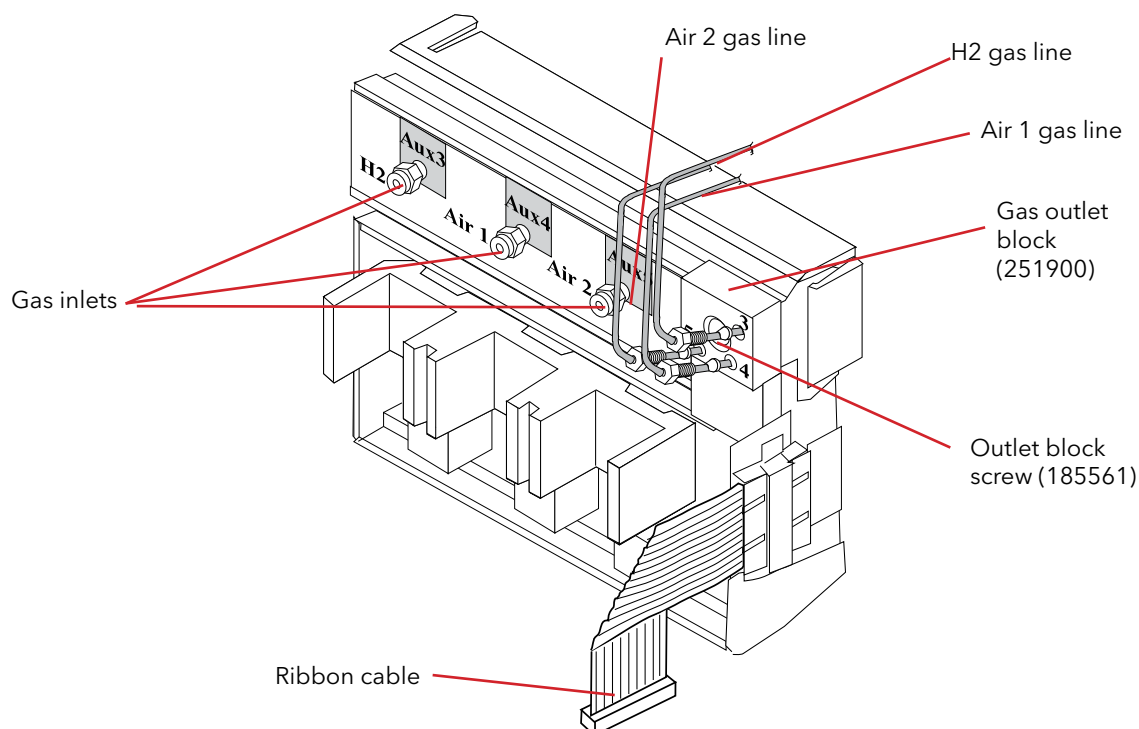

Figure 3.33. Auxiliary EPC Manifold and Aux EPC Mixing Assembly
2. Remove the Agilent gas outlet block attached to the front upper right corner of the auxiliary EPC manifold (Figure 3.33) by unscrewing the Torx T-20 screw (PN 185561). Carefully remove the three 30-mL/min cylindrical restrictors (marked with a red dot) and O-rings from the back of the Agilent gas outlet block.
3. Place two of the Agilent 30-mL/min restrictors and O-rings in the number 4 and 5 gas outlets on the OI gas outlet block (PN 251900). The gas outlet numbers are inscribed on the front of the gas outlet block (Figure 3.33). Place the third O-ring over the supplied 10-mL/min restrictor (PN 290601) and insert the restrictor into the number 3 gas outlet of the OI gas outlet block. With all three restrictors and O-rings in place, reattach the Agilent gas outlet to the OI gas outlet block with the previously removed T-20 Torx screw.
4. Attach the H2 label immediately to the left of the Aux 3 gas connector, the Air 1 label to the left of the Aux 4 connector, and the Air 2 label to the left of the Aux 5 connector on the front of the auxiliary pressure control manifold (Figure 3.33).
7. Remove the protective caps from the Aux 3 (H₂), Aux 4 (Air 1), and Aux 5 (Air 2) gas inlet connectors on the front of the auxiliary EPC manifold (Figure 3.33).